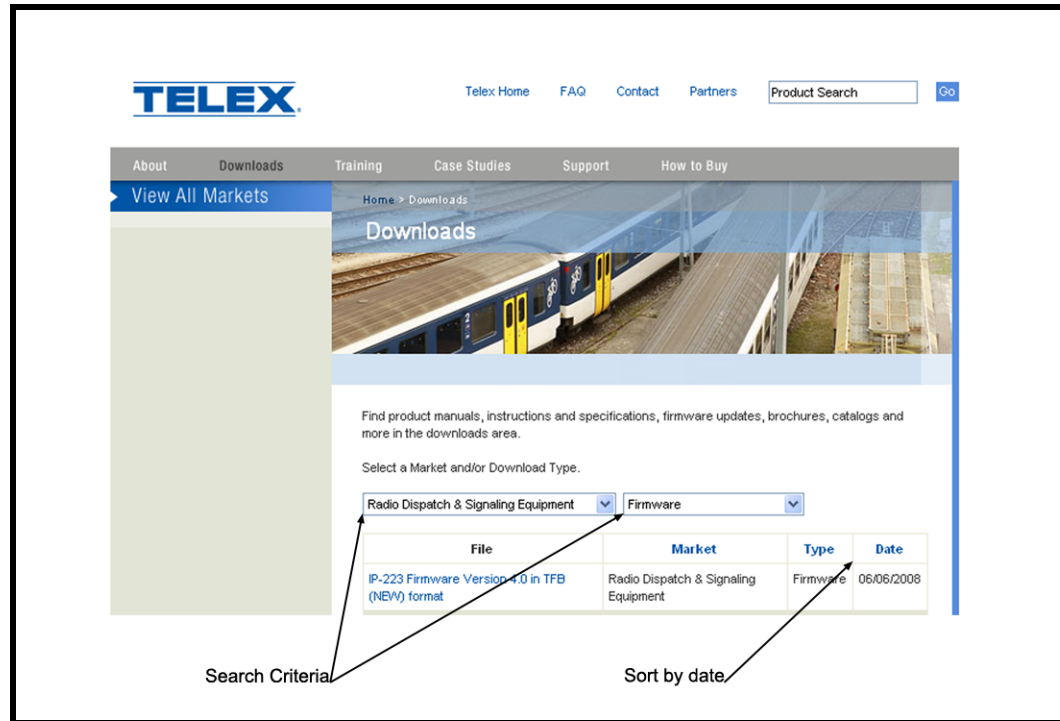

FIGURE 106. Telex Website Firmware Downloads.
1. Set the first column's search criteria to **Radio Dispatch & Signaling Equipment**, see Figure 106.
2. Set the second column's search criteria to **Firmware**, see Figure 106.